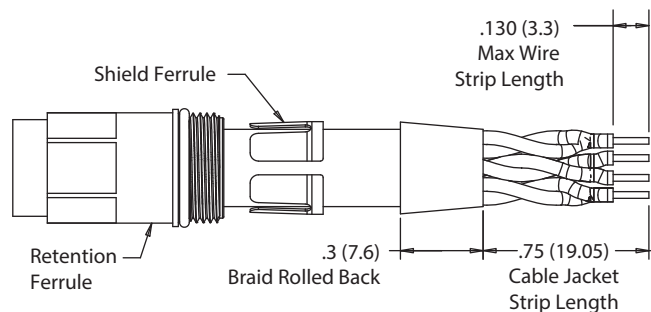
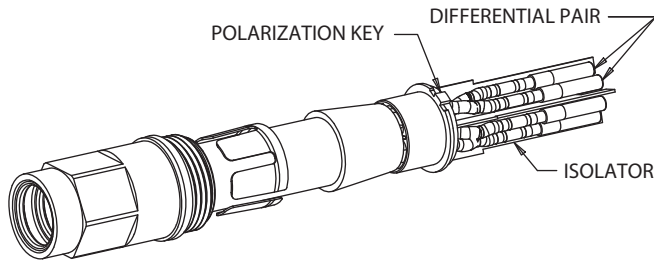

FIGURE 2
FIGURE 3
- Trim outer tape, cable splice, and filler if any as close to the folded back braid shield as possible. (Figure 2)
- Insert each pair of wires into the appropriate quadrant on the isolator according to figure 3 for socket modules, and figure 4 for pin modules.
- Snap each pair into the appropriate position on the inner insulator. Refer to figure 2 for sockets and figure 3 for pins.